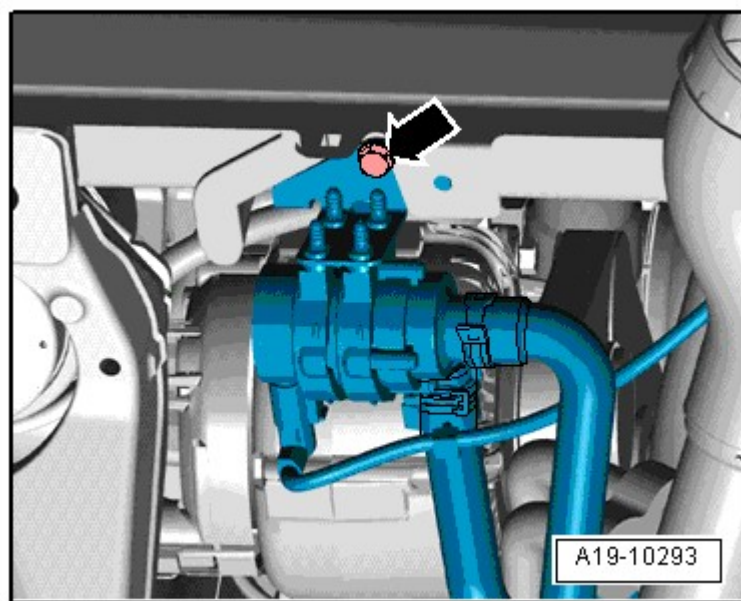

Fig. 188: Vehicles Built through 05.10: Fuel Cooler Pump -V166-, Tightening Specifications
-- Tighten the fuel cooler pump -V166- to the longitudinal member. Refer to **Fig. 188**.